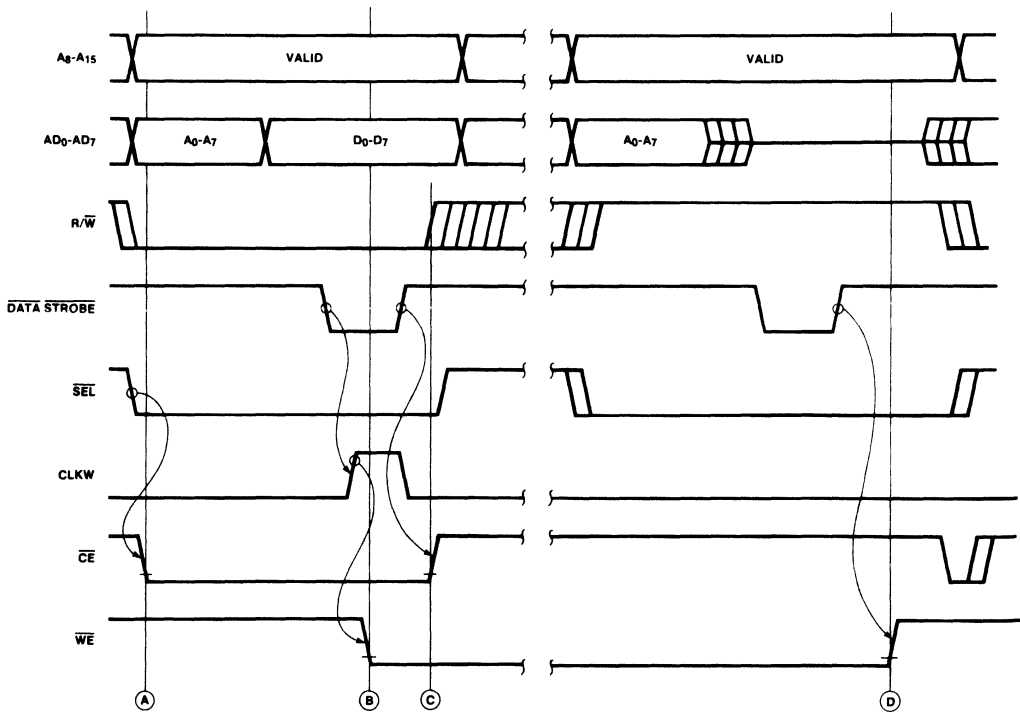

Figure 18. Timing Diagram — 71840/E2ROM Interface
The operation of the remaining circuitry in write cycle initiation is very simple. The following explanation refers to the timing diagram presented in Figure 18. To initiate the write cycle, the 71840 issues a Write command to the E2ROM device. After addresses become valid, the decoder brings  $\overline{\text{SEL}}$  active low (see (A) in Figure 18). Subsequently, the falling edge of  $\overline{\text{DATA STROBE}}$  ( $\overline{\text{DS}}$ ) clocks R/W into the  $\overline{\text{WE}}$  flip-flop, initiating a write cycle by bringing  $\overline{\text{WE}}$  active low (see (B) in Figure 18). At this time, the latched E2ROM latches address, data, and control signals.
At the trailing (rising) edge of  $\overline{\text{DS}}$ , the gating circuitry inhibits  $\overline{\text{CE}}$ , and  $\overline{\text{CE}}$  is brought to  $V_{\text{IH}}$  (see (C) in Figure 18). At this point, the timer E2ROM latches data and
The termination of the write cycle occurs with equal simplicity (see Figure 18). When the processor reads from the E2ROM, the rising edge of  $\overline{\text{DS}}$  causes the  $\overline{\text{WE}}$  flip-flop to be preset. This brings  $\overline{\text{WE}}$  high (see (D) in Figure 18), ending the write cycle.